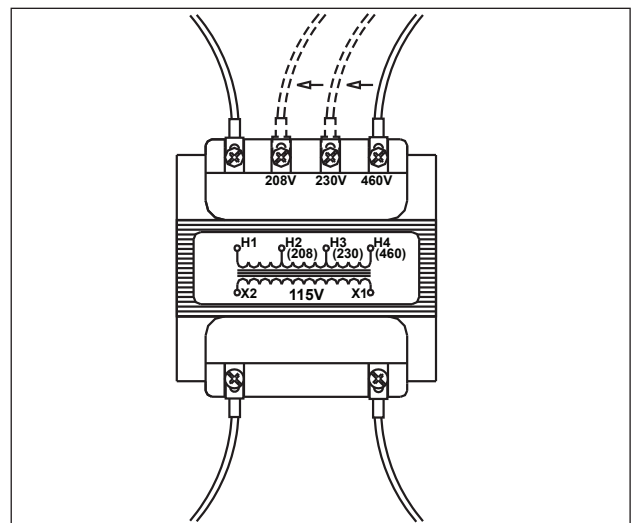

FIGURE 2 - Transformer
11. Connect "power-in" conductors to proper locations: 208/230/460 VAC on the 3 position terminal block. See Figure 2. **Verify that the appropriate voltage tap on the transformer primary matches the incoming voltage.**